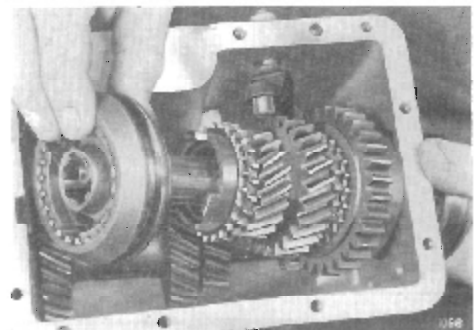

Fig. 19. Tilting the mainshaft and removing synchro unit
Tilt the mainshaft assembly (Fig. 19) and extract the synchro unit (92), (95) and the synchro cups (96) and (98).